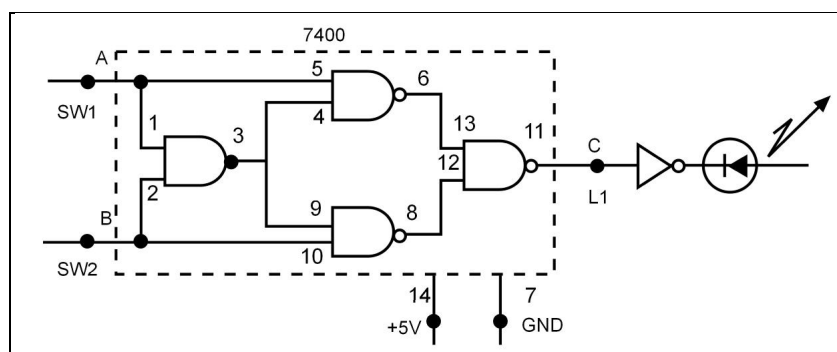

Fig. 2-1 Exclusive OR Circuit for Steps 1 through 3
1. Wire the circuit shown in Fig. 2-1. You will use a type 74LS00-IC. The inputs-A and B to the circuit are applied through data switches-SW1 and -SW2. The output C will appear on LED L1-indicator. Be sure to connect +5 volts to pin 14 and ground to pin 7 on the IC.